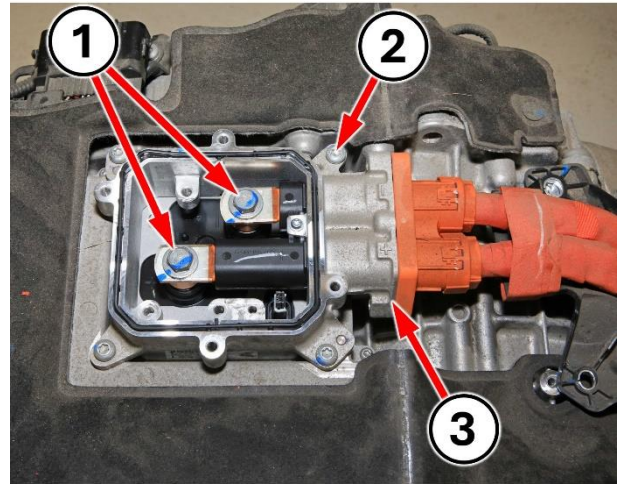

Figure 38 – EDM Cover Plate
- 78. Remove the two bolts (1) that secure the high voltage wire harness to the EDM (Figure 38).
- 79. Remove the four screws (2) that secure the high voltage cable housing to the EDM (Figure 38).
- 80. Remove the high voltage cables and housing assembly (3) from the EDM (Figure 38).